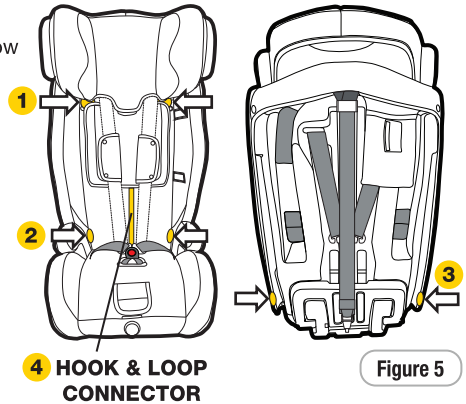

Figure 5
- Step 3:** Clip the press studs location **1** (refer Figure 5).
- Step 5:** Attach the **4** hook & loop connector located below the headrest/apron and secure the cover (refer Figure 5).